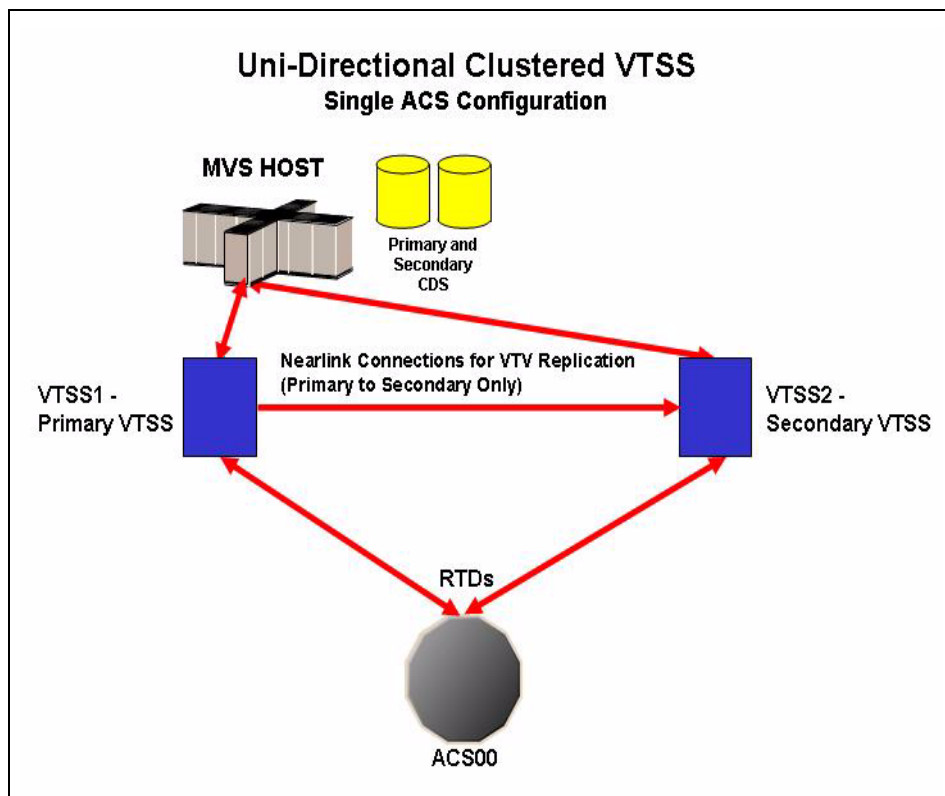

FIGURE 8-2 Uni-Directional Cluster attached to a Single ACS
- *Uni-Directional Clusters*, which consist of a *Primary VTSS* and a *Secondary VTSS* connected by one or more cluster links (CLINKs). FIGURE 8-2 shows a Uni-Directional Cluster attached to a single ACS. The CONFIG CLUSTER statement defines the Cluster, and the CONFIG CLINK statement(s) define this the Cluster as Uni-Directional.